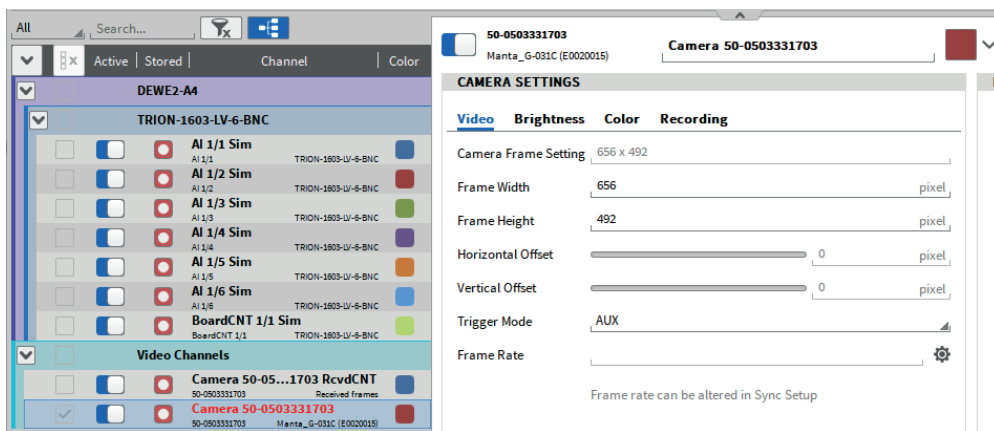

Fig. 13: Switching trigger mode to AUX
- ▶ Go to the camera channel setup and switch the *Trigger Mode* to *AUX* (Fig. 13).